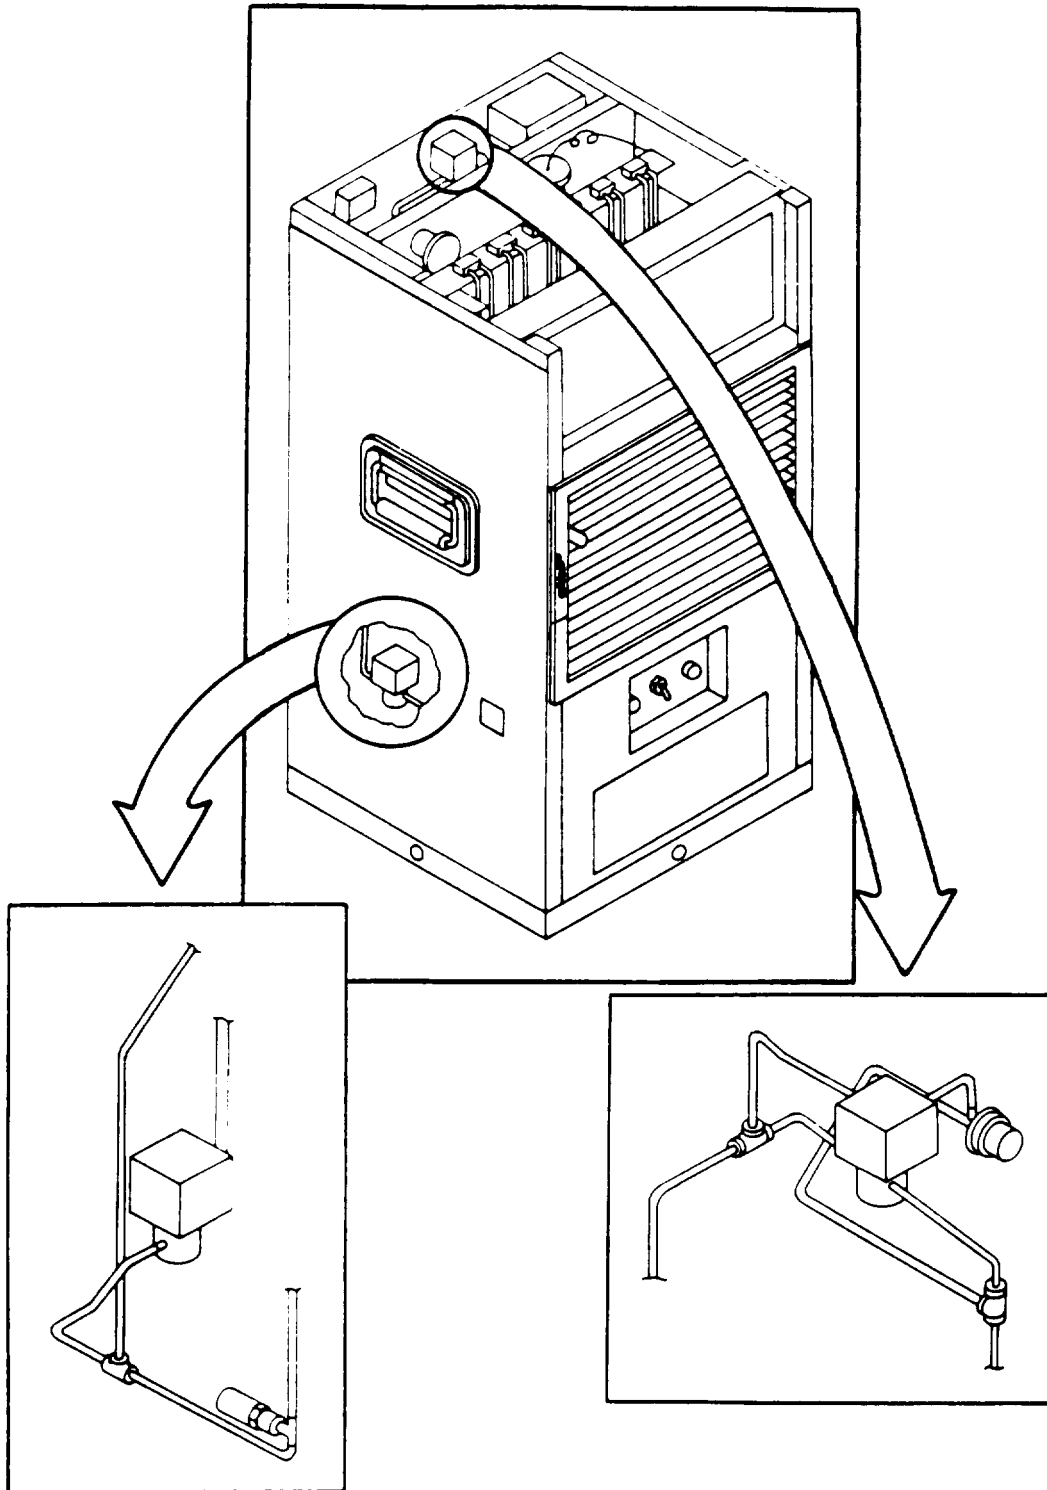

Figure 4-41. Solenoid Valves.
a. **INSPECTION.** See Figure 4-41.